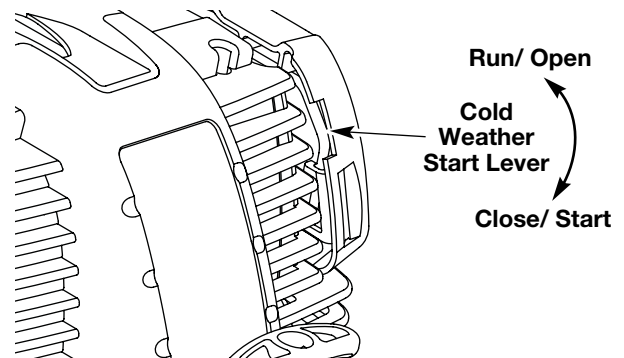

Fig. 12
**IF COLD...** For cold weather conditions (below 40°F), flip the Cold Weather Start Lever (Fig. 12) back up to the run/open position after the unit has started and before squeezing the throttle control.